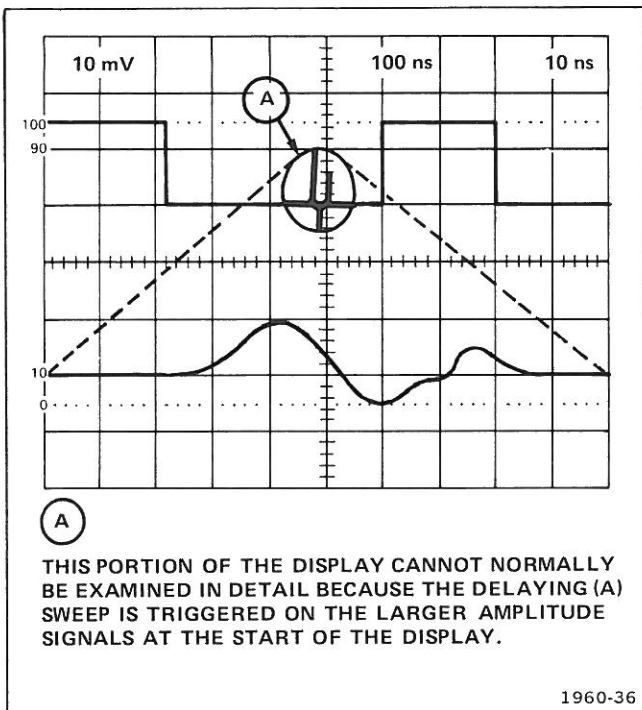

Fig. 1-10. Magnifying a selected segment of the delaying (A) sweep in the delay-time mode with mainframe alternate or chopped horizontal operation.
5. To magnify a selected segment of the delaying (A) sweep waveform and determine apparent magnification in the delay-time mode:
- b. Set the appropriate triggering, position, deflection-factor, and sweep-rate controls for the desired dual-trace display. See the example in Figure 1-10.
*If there is excessive jitter in the delayed (B) sweep display, refer to the Triggered Delayed Sweep Magnification discussion.*
c. Turn the DELAY TIME control to position the intensified zone to the portion of the delaying (A) sweep waveform to be magnified.
d. Set the delayed (B) sweep unit sweep rate to select the desired duration of the magnified display as indicated by the length of the intensified zone.
e. Observe the magnified display on the delayed (B) sweep. See Figure 1-10.
*For a better look at the delayed (B) sweep waveform, set the mainframe to the B horizontal mode and the amplifier-unit deflection factor to increase the display amplitude. Do not change the 7B85 TIME/DIV setting.*
f. Determine apparent magnification by dividing the 7B85 TIME/DIV setting by the delayed (B) sweep unit sweep-rate setting.
Example: The apparent magnification of the delayed (B) sweep shown in Figure 1-10 with a 7B85 TIME/DIV setting of .1 millisecond and a delayed (B) sweep unit sweep-rate setting of 1 microsecond is: